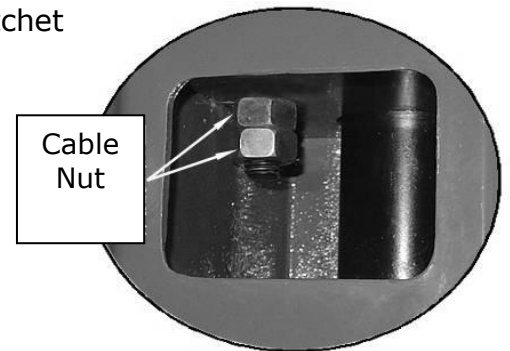

Fig. 39
1. Adjustment of synchronous cable (See Fig. 39)